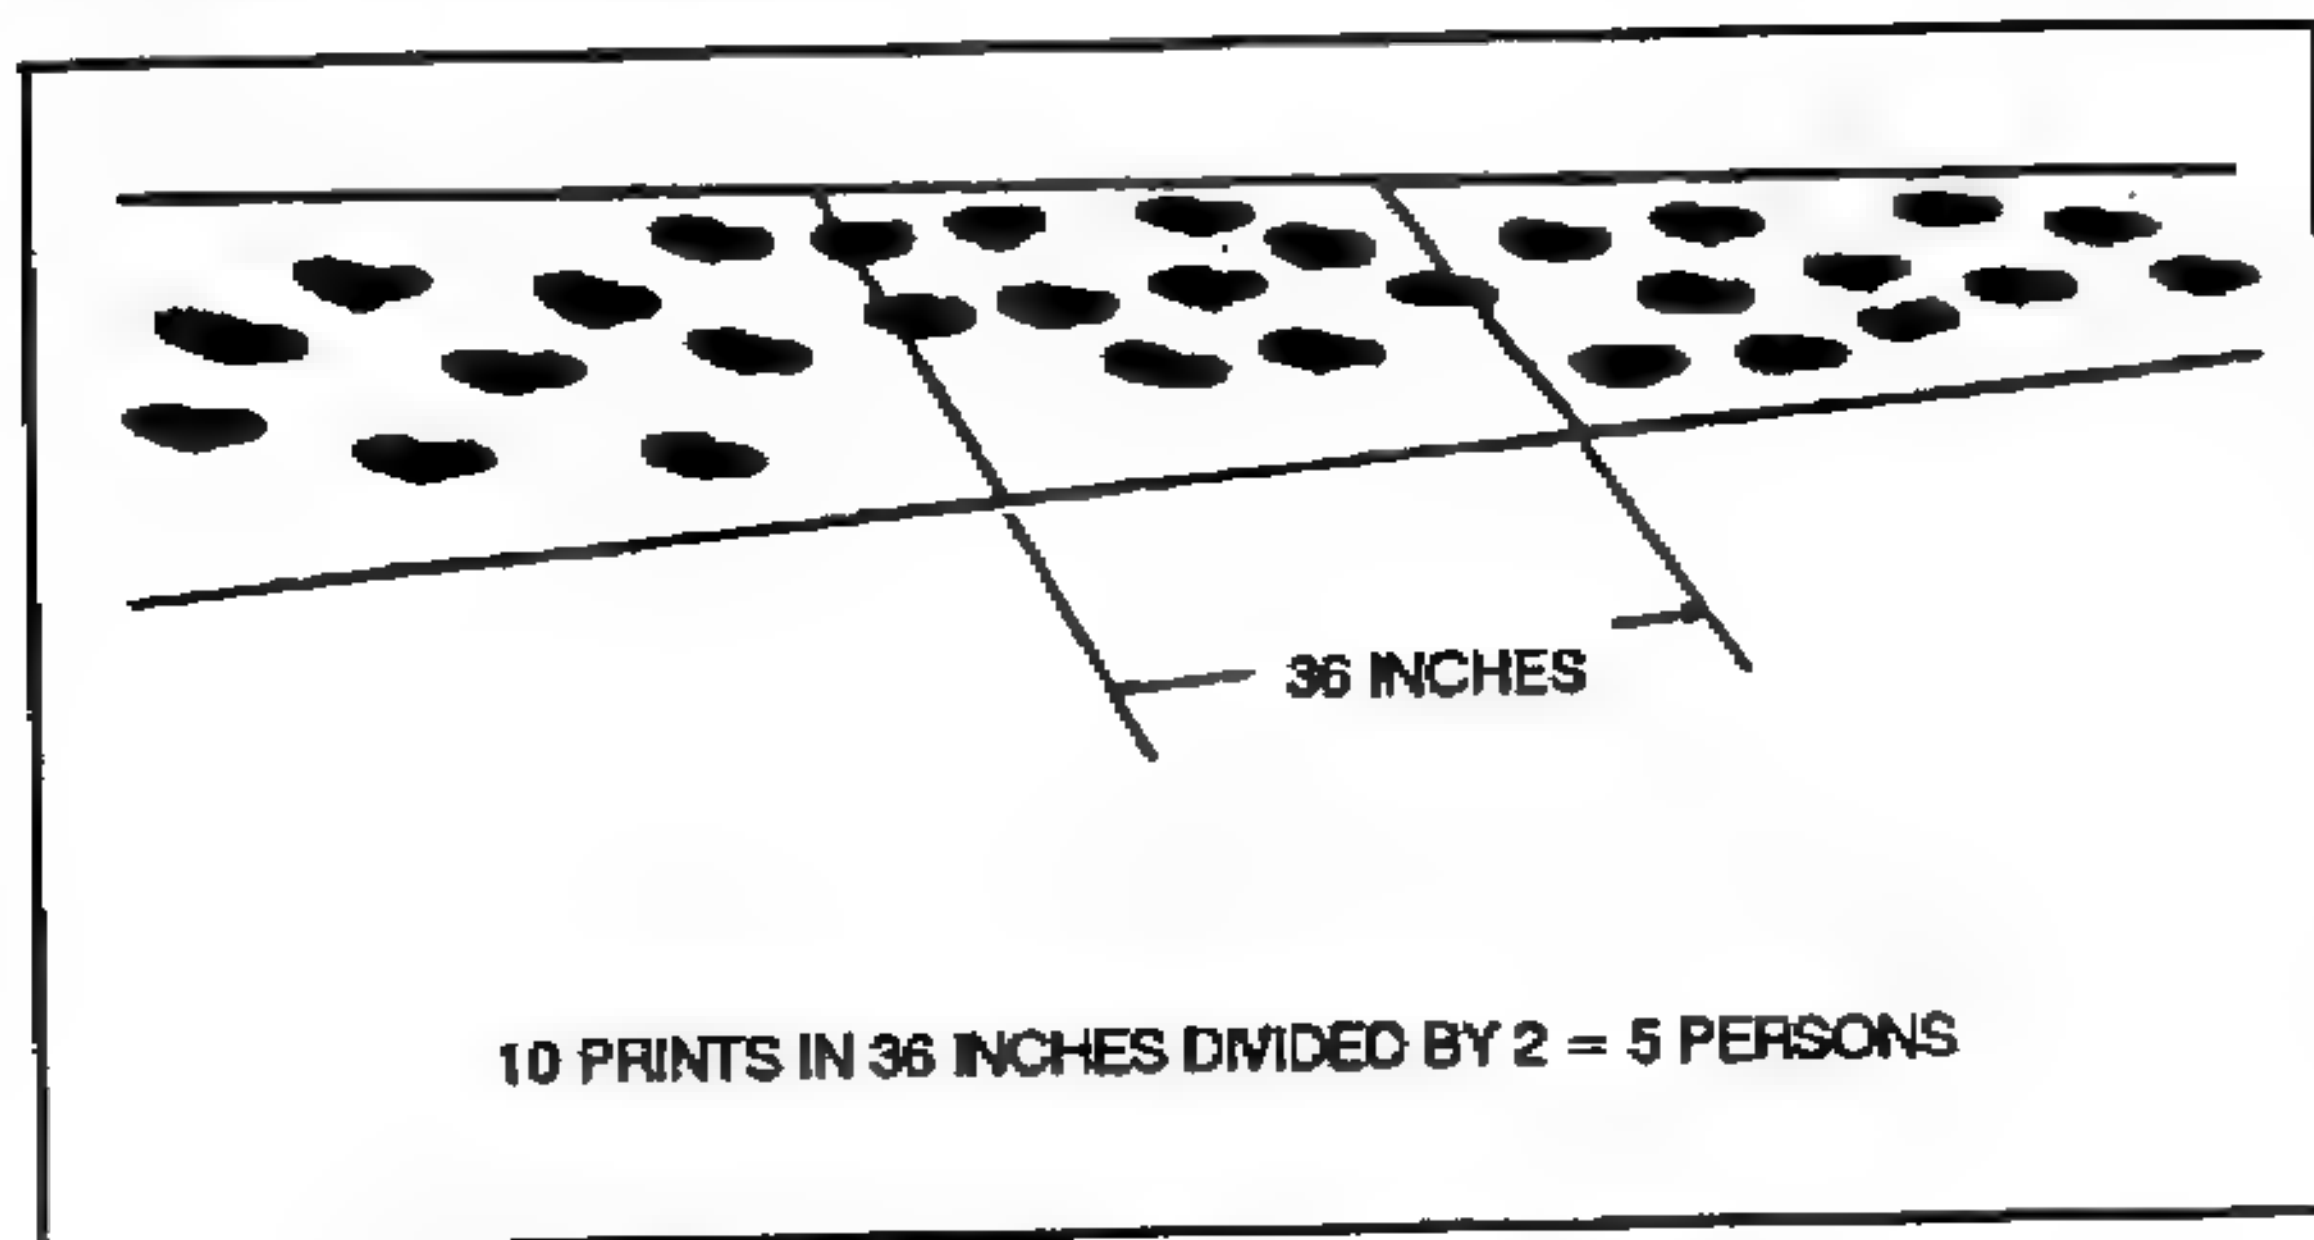

Figure 8-3. 36-inch box method.
(2) The sniper may also use the 36-inch box method (Figure 8-3) if key prints are not evident. To use the 36-inch box method, the sniper uses the edges of the road or trail as the sides of the box. He measures a cross section of the area 36 inches long, counting each indentation in the box and dividing by two. This method gives a close estimate of the number of individuals who made the prints; however, this system is not as accurate as the stride measurement.